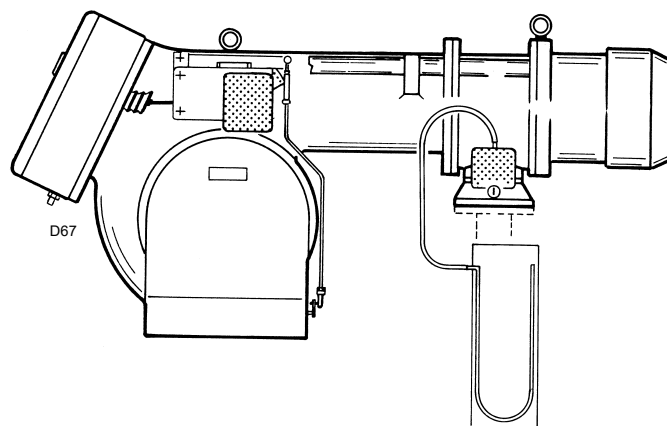

Fig. 21
- Fit a U-type pressure gauge (Fig. 21) to the gas pressure test point on the pipe coupling.
The arrival of gas to the sleeve is indicated by the U-type pressure gauge (Fig. 21).